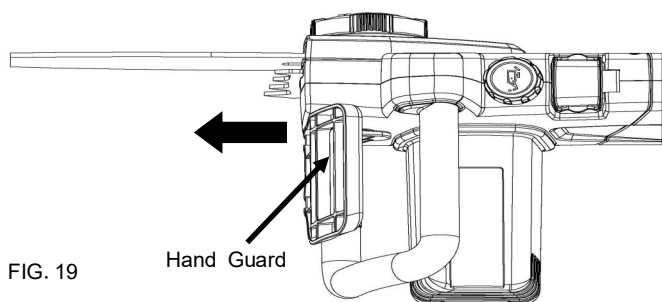

FIG. 19
■ Using the back of your left hand, engage the chain brake by pushing the chain brake / hand guard toward the bar while the chain is rotating rapidly. (Fig. 19)